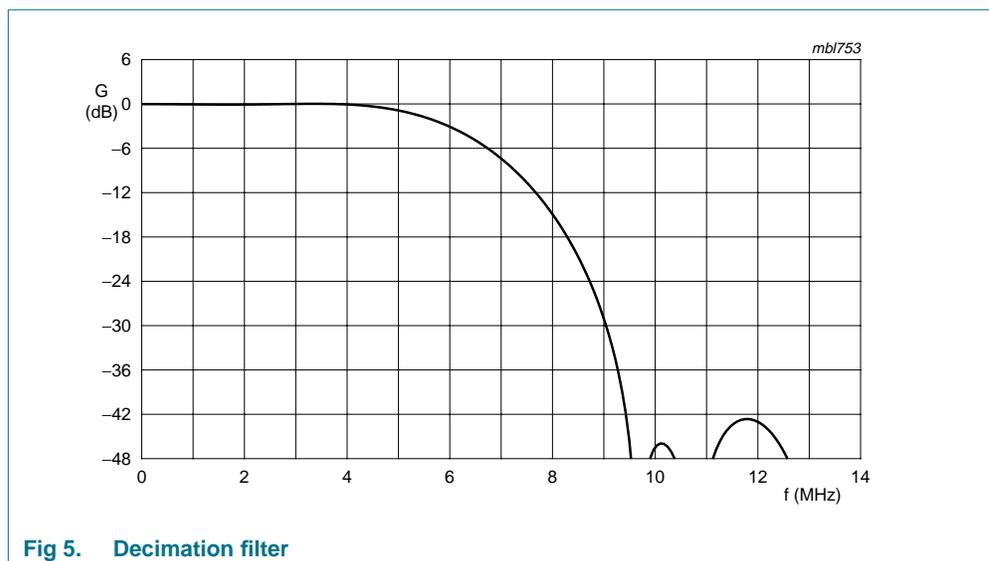
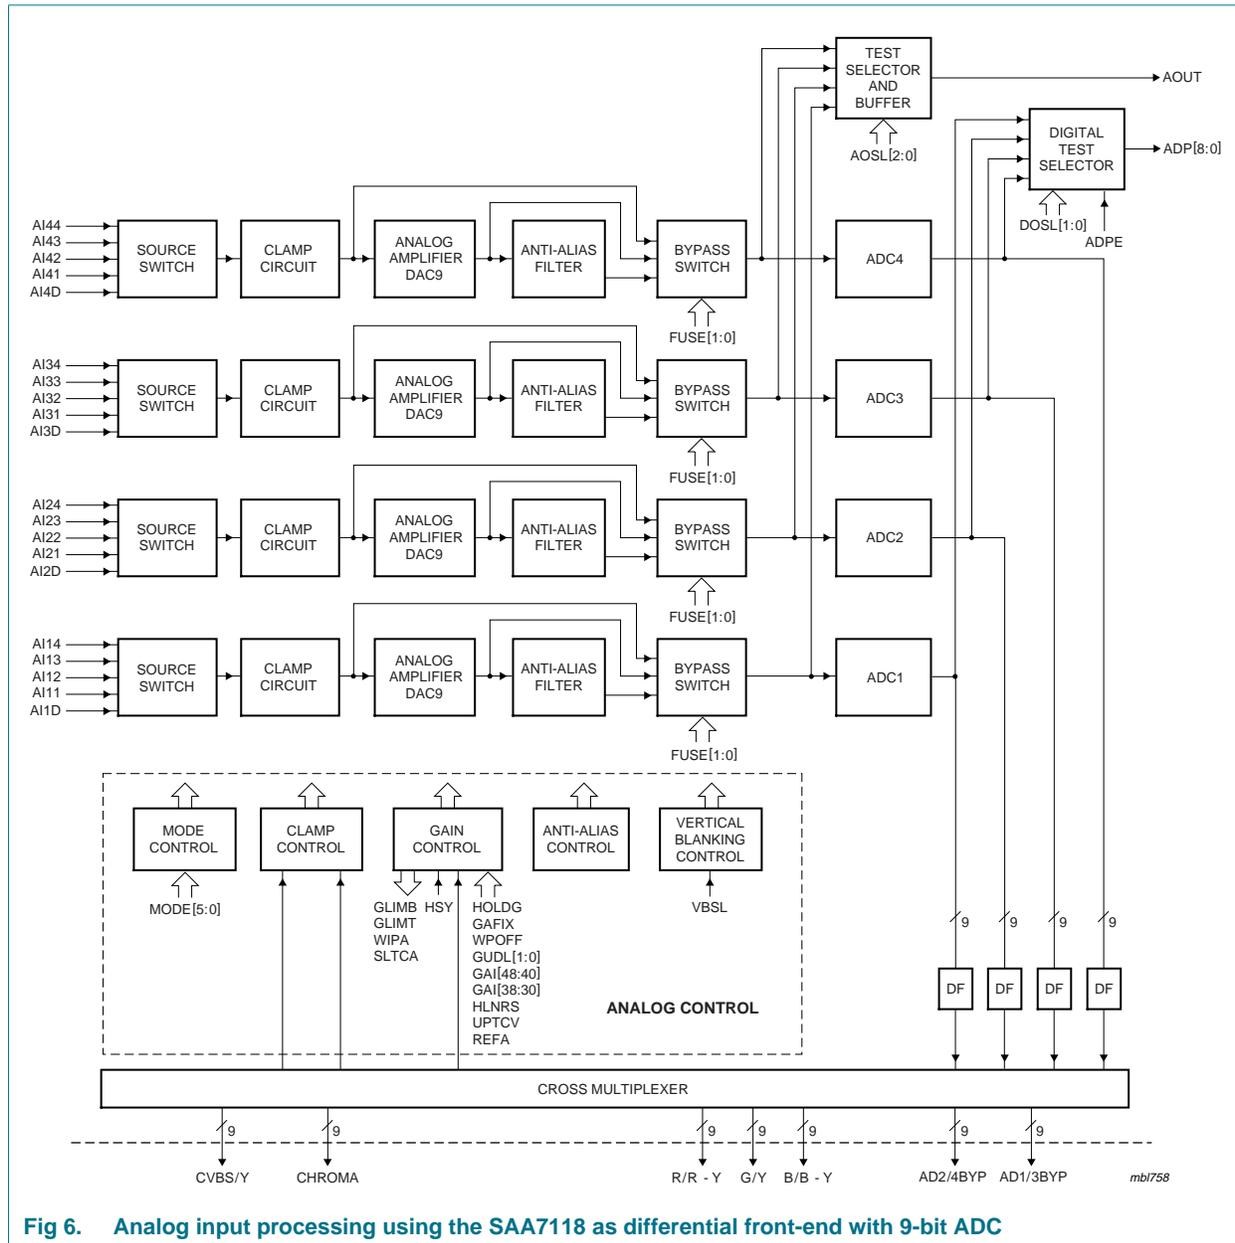

Fig 5. Decimation filter
Fig 6. Analog input processing using the SAA7118 as differential front-end with 9-bit ADC
The SAA7118 offers sixteen analog signal inputs, four analog main channels with source switch, clamp circuit, analog amplifier, anti-alias filter and video 9-bit CMOS ADC with a Decimation Filter (DF); see Figure 5 and Figure 6.